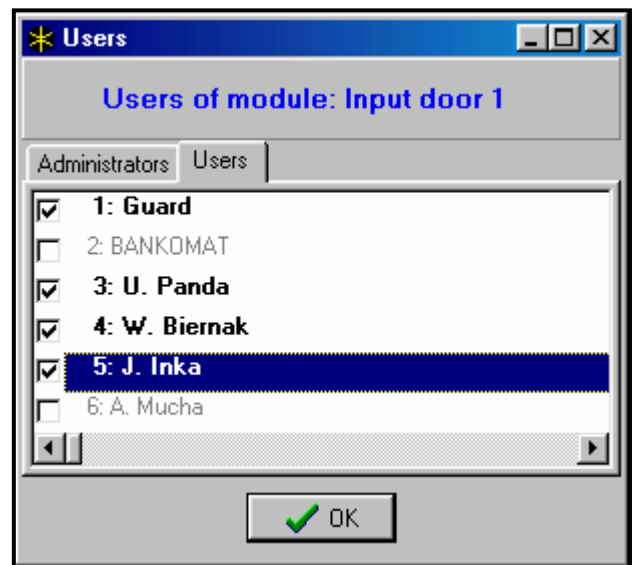

Figure 4
- ◆ **Dependent on door (1) (or Dependent on door (2)):** - The field, where you can select (from the list) which door must be closed to activate the lock. Door status monitoring is carried out via input IN at the partition keypad or an input type 57 (technical input – door monitoring). This function makes it possible to create a “sluice” type passageway.
- ◆ **Users** – When you click with the mouse to this field, a new dialog window opens (see Figure 4) which is used for setting the list of users (administrators and ordinary users), who may use this partition keypad. Mark the user name to render accessible the partition keypad for him.